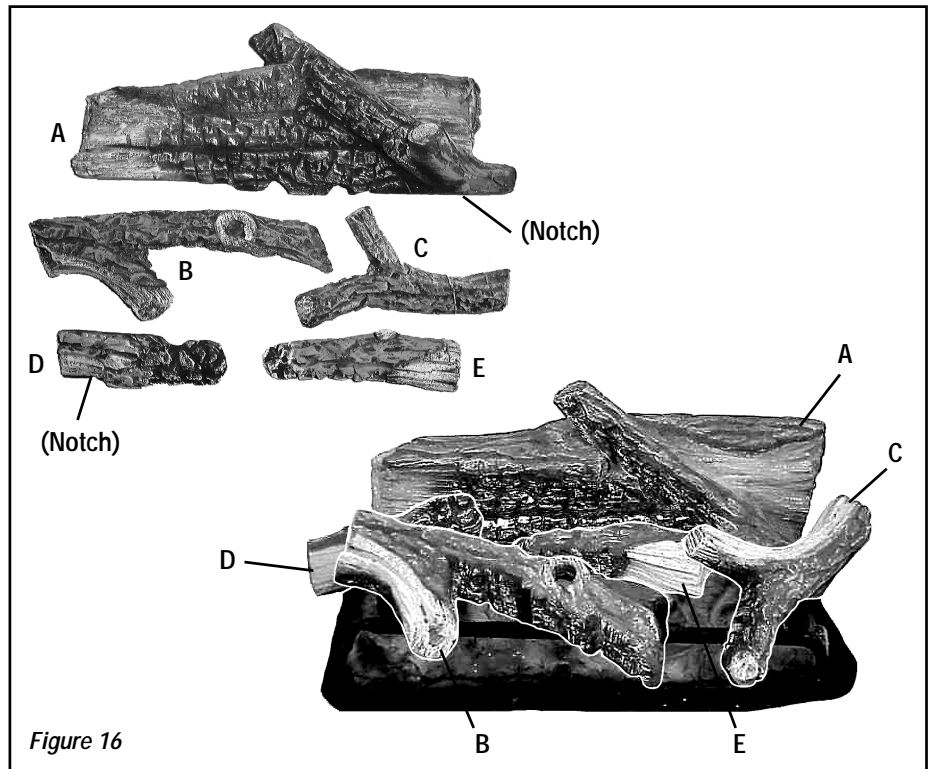

Figure 16
2. Place Log Assembly A on the grate first and center it against the back of the grate, engaging the notch at the bottom right hand side of the log assembly to the right grate bar. The correct placement of Log Assembly A is important to provide the proper visual effect. Placement of the other logs can be adjusted to suit individual taste. Our suggested placement is shown in *Figure 16*.